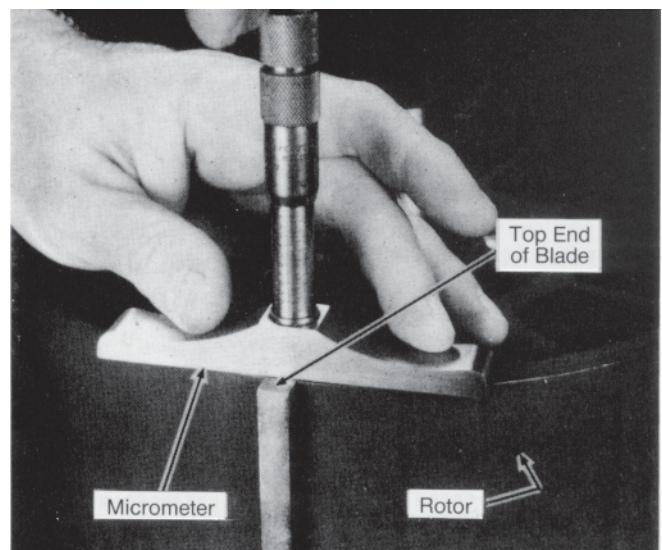

Figure 28 –Taking Top End Clearance
- Place a depth micrometer on the rotor over the blade end, Figure 28. If a depth micrometer is not available, a feeler gauge may be used.